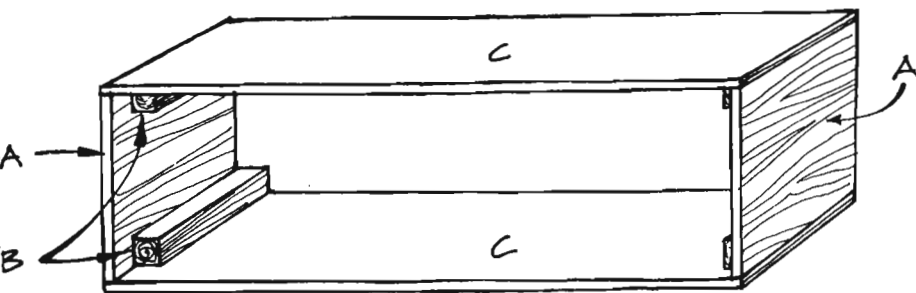

Figure 2
4. Repeat step 3 to attach the remaining two corner supports (B) to the other side (A).
5. Cut two front/back pieces (C) from 3/4-inch-thick plywood, each measuring 16-1/2 by 48 inches.
6. Place the two sides (A) opposite each other, with the 2-1/4-inch gap at the bottom of both sides (A). Glue and screw the sides (A) to both the front and back (C), matching 16-1/2-inch edges, as shown in *Figure 2*. The front and back pieces (C) should overlap the exposed edges of the sides (A). Use 2-inch-long screws placed about every 4 inches, and screw through the front and back (C) into the corner supports (B).